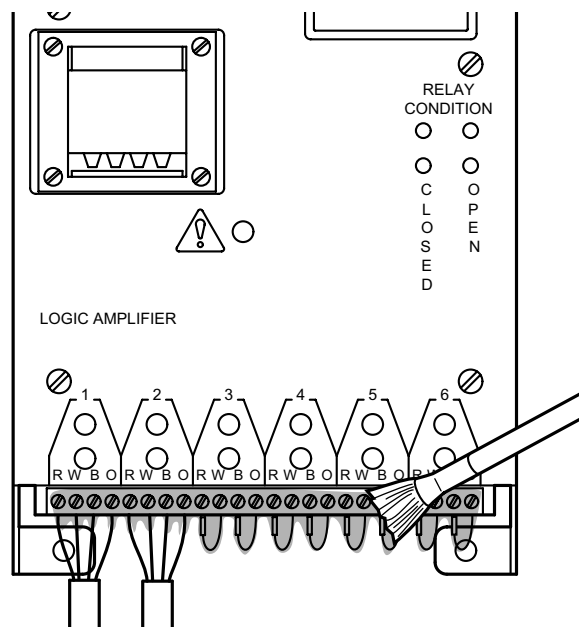

Figure 49 — For moisture protection, generously coat resistors, sensor leads, screw terminal holes and terminal strip area with dielectric tune-up grease.
**Resistors and sensor leads:** Check dielectric grease coating on resistors, sensor leads and terminal strip. Dielectric grease provides a moisture barrier to reduce the potential for premature amplifier failure. If resistors, sensor leads and terminal strip need to be greased, use only dielectric tune-up grease. Generously fill each hole on bottom of lower terminal strip and each screw terminal hole for the sensor leads, and coat each resistor with the grease. Use a small brush to smooth out grease and ensure grease completely covers terminal strip area (Figure 49).